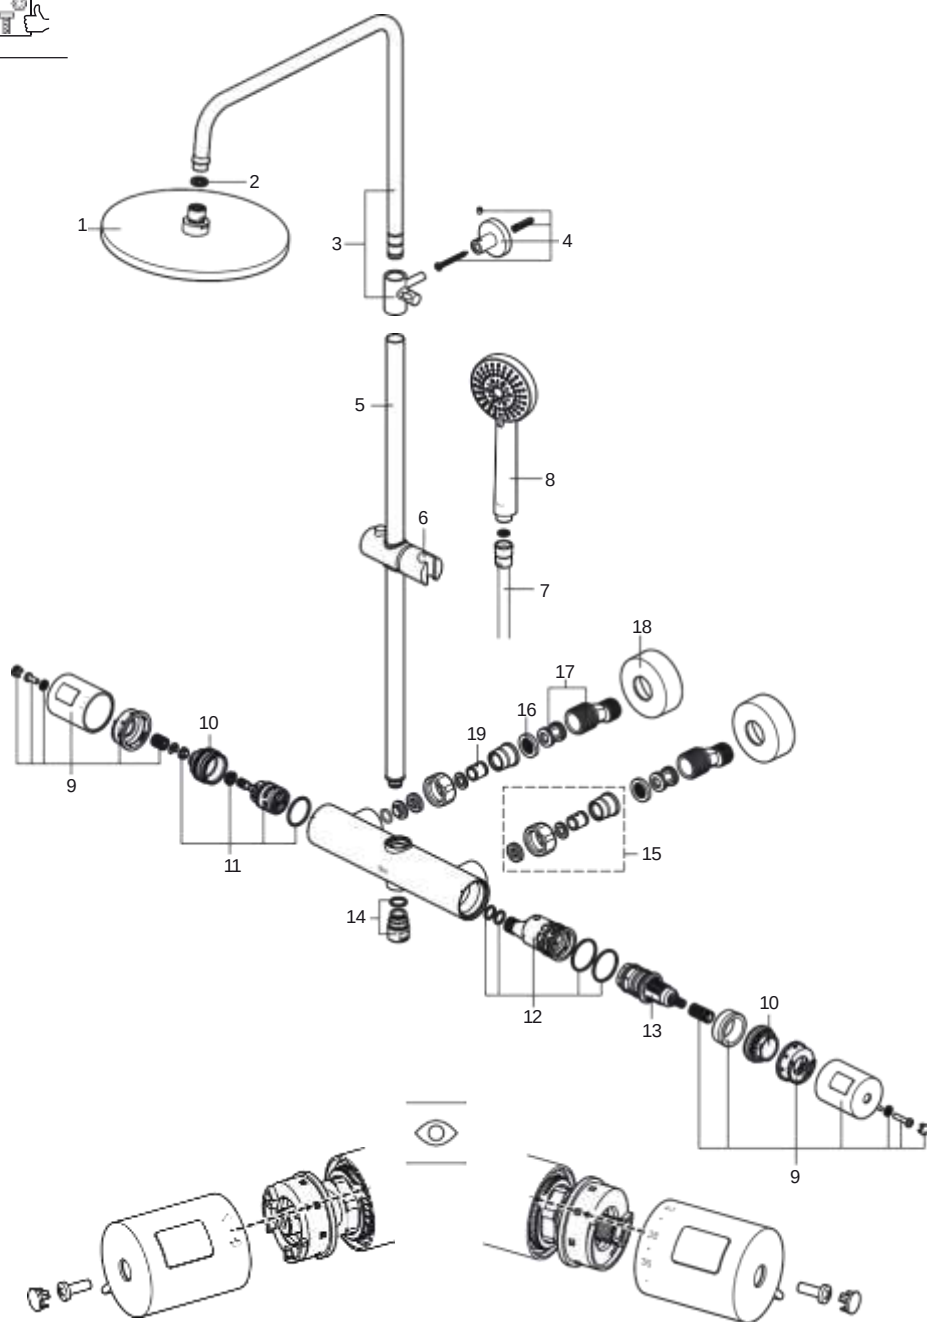

Fig. 1
Montaje (Fig. 1)
Assembly (Fig. 1)
- 2) Install the eccentrics following the recommendations and distances defined in Fig. 1.